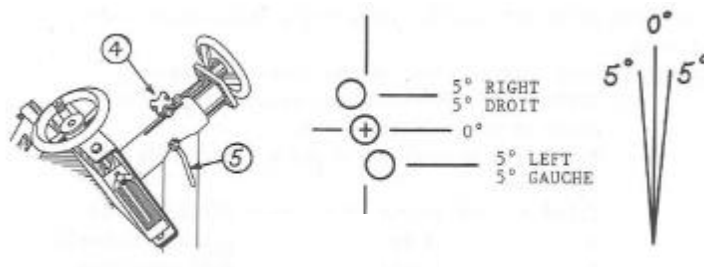

Figure 12
1. Unlock lever (5);
2. Remove knob (4);
3. Select a hole for a 5° clearance (Fig. 12);